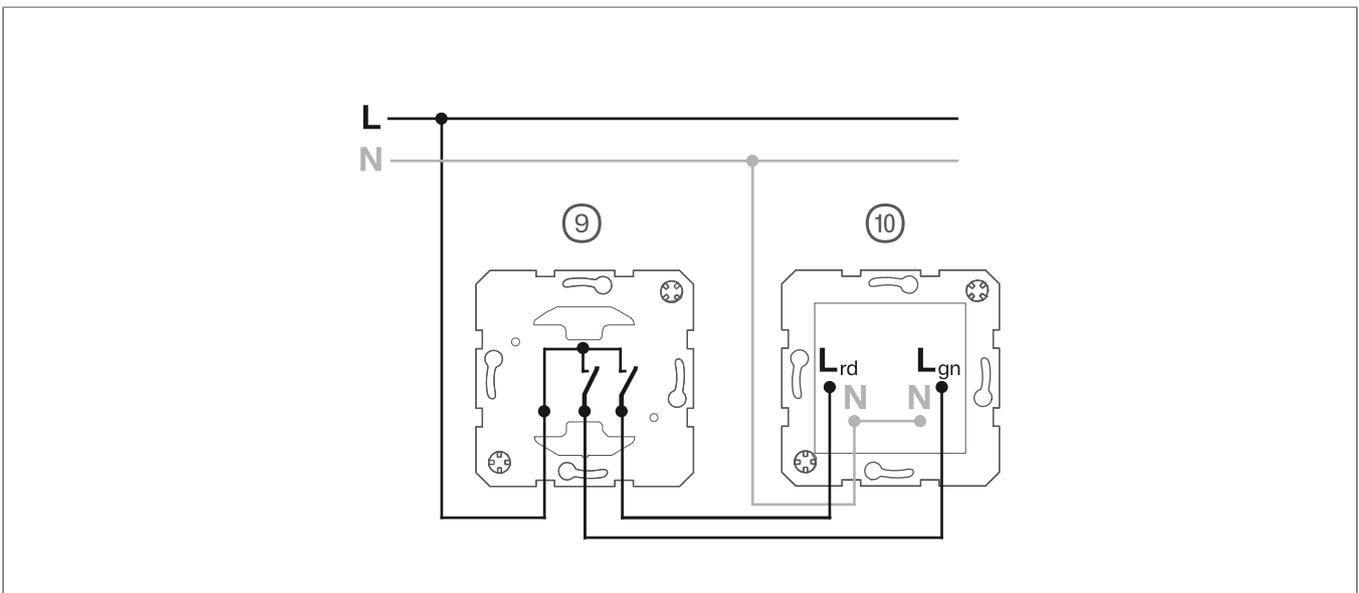

Fig. 3: Connection example of LED signal light, red/green lighting
- ① Connect LED signal light according to connection example (Fig. 3). Instead of the series switch (9), that can be used to switch both colours separately, a change-over switch can also be used to allow a simple change-over of both colours:
- ② Install insert (10) into a wall box. The connecting terminals must be at the bottom.